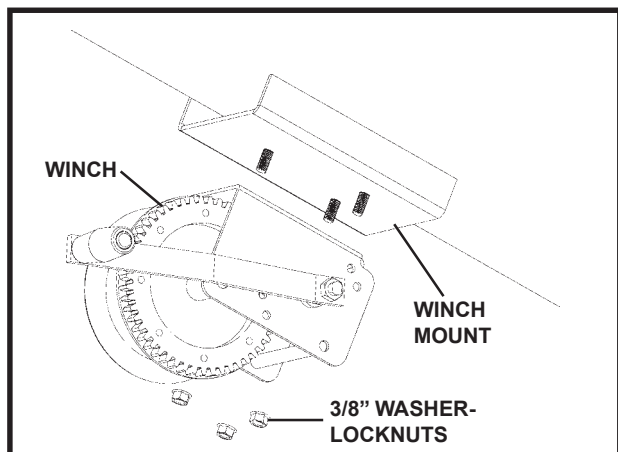

Figure No. 17
2. Attach winch to winch mount with three 3/8" washer-locknuts (see **Figure No. 17**).